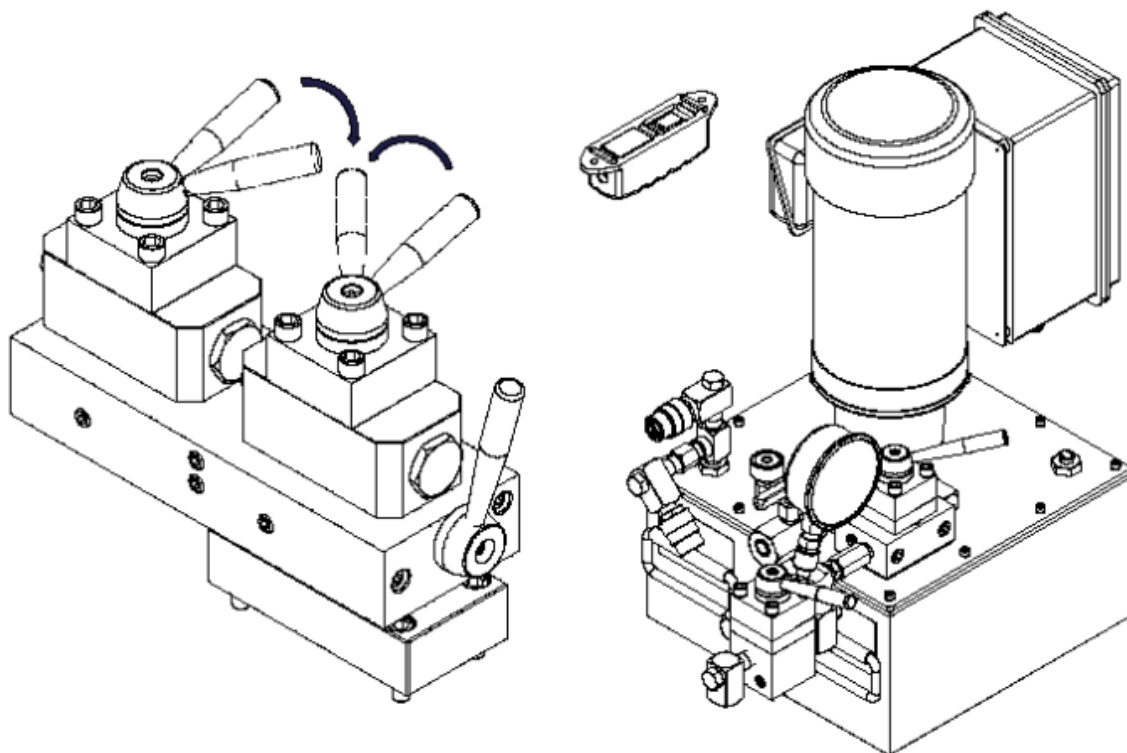
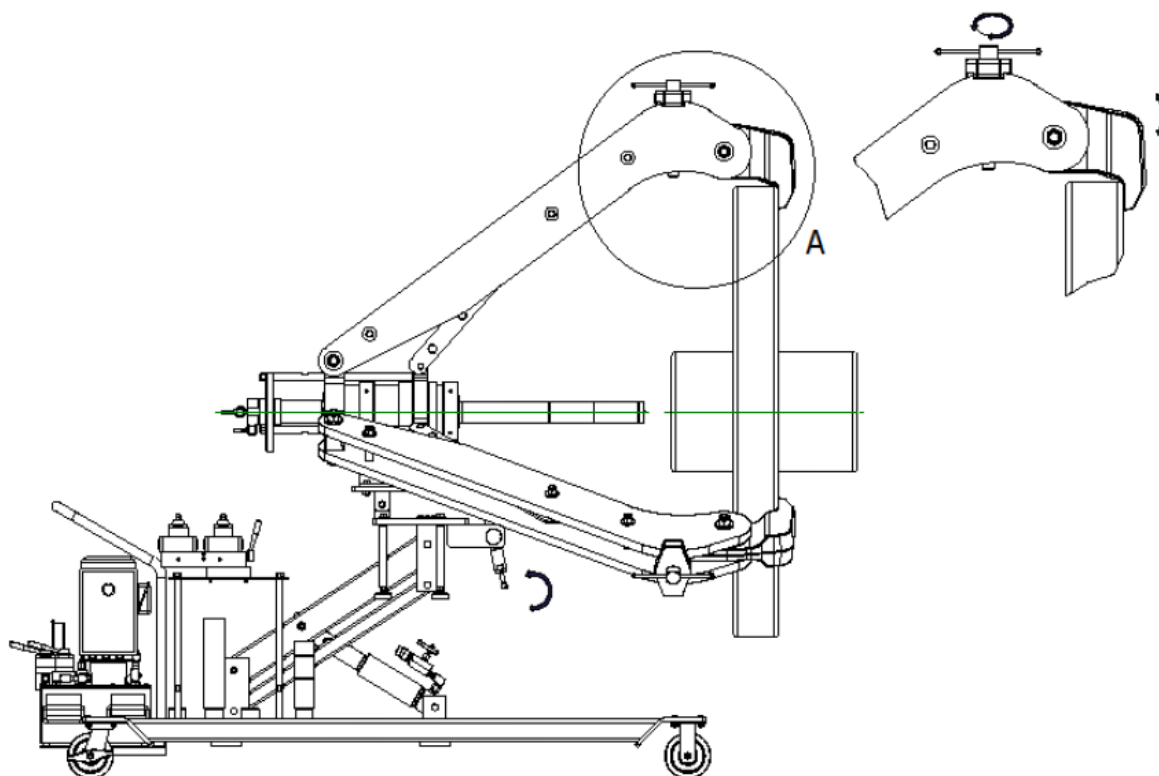

Figure 4-1 – Closing the Puller Jaws
Figure 4-2 – Fully Engaged Jaws
5.3.3 Switch the control panel as shown in Figure 4-1 to tightly close the jaws around the part to be pulled and ensure the jaws are fully engaged and secure (see Figure 4-2).